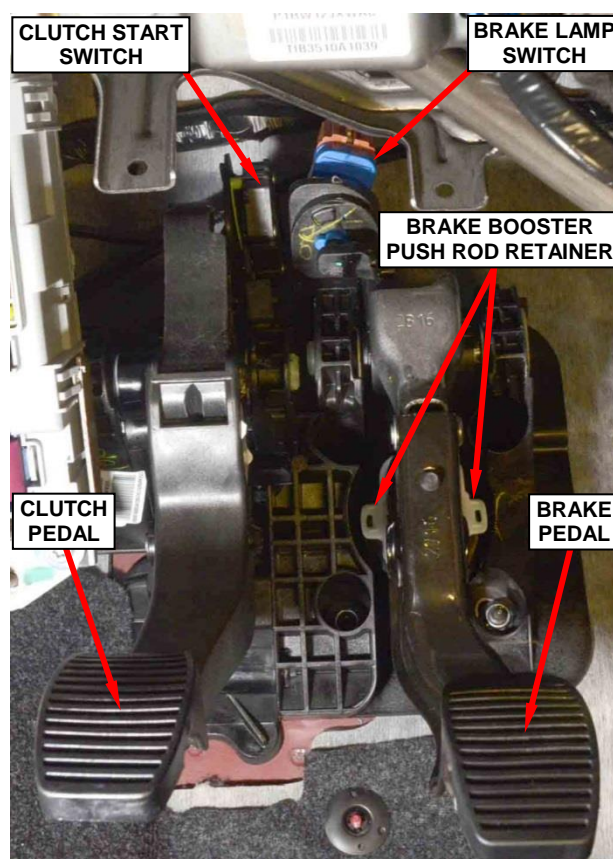

Figure 14 – Electrical Connectors and Brake Booster Push Rod
28. Disconnect the electrical harness connectors from the clutch start and brake lamp switches (Figure 14).
29. Disengage the clips of the brake booster push rod retainer from the brake pedal. Position the retainer forward toward the brake booster, away from the brake pedal (Figure 14).
37. Connect the body wire harness connectors to the clutch start switch and brake lamp switch (Figure 14).